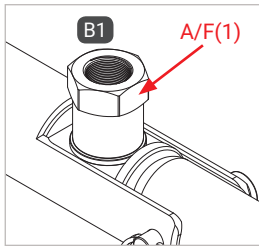

Figure 1
- ▶ When mounting media hose line, hold an open-ended spanner against the spanner flat AF(1) (*Figure 1*).
- ▶ Screw the 'B1' media inlet pressure-tight to the port for the media line (*Figure 1*).